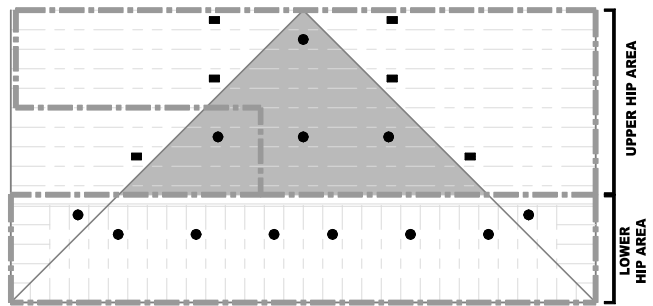

FIGURE 17B
- Calculate the 8 most demanding contiguous sprinklers along the eave. This may include sprinklers on both sides of the hip line as shown. See Figure 17B.
If there are 4 sprinklers or less in the shaded area (Figure 17B):
- Calculate up to the 8 most demanding contiguous sprinklers in the "Upper Hip" area. This may include sprinklers on both sides of the hip line as shown. See Figure 17B.